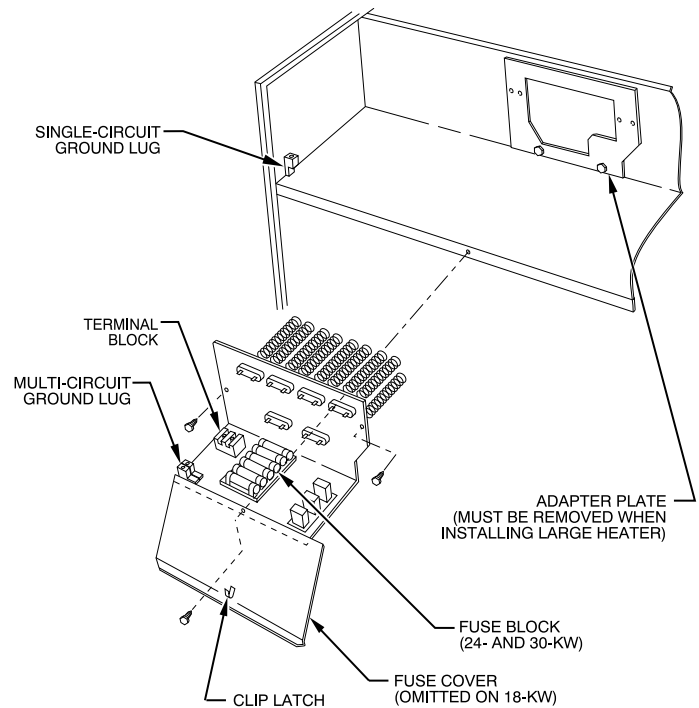

**Fig. 1 – Installation of 18-, 24-, and 30-kW Model Heaters**
3. Disconnect 2 power wires (black and yellow pigtail leads) from PCB or wire harness (if applicable) and discard. Wires may be part of a plug assembly or attached to terminals L1 and L2. Remove cooling control plate from fan coil (if equipped). For 18-, 24-, and 30-kW heaters, remove adapter plate (Fig. 1).
5. Attach heater control plate to fan coil using 2 screws provided. For 18-, 24-, and 30-kW heater models, attach front of heater to fan deck using third screw (Fig. 1).
Fuse assembly is mounted on heater. Be sure fuse cover is closed by engaging clip latch on unit top panel (Fig. 1)